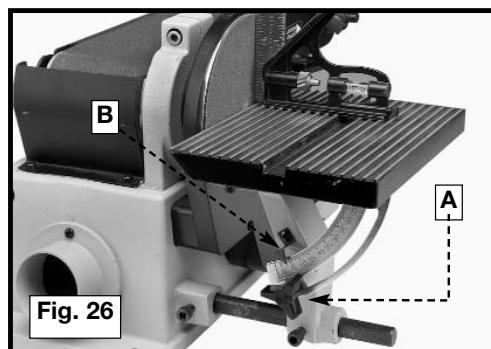

Fig. 26
1. Use a combination square with one end on the table and the other end against the sanding disc (Fig. 26). See if the table is 90 degrees to the disc.
2. To adjust, loosen the table lock knob (A) Fig. 26, move the table square with the disc and tighten the lock knob (A).
3. Adjust the pointer (B) Fig. 26 to the "0" degree mark on the angle scale.